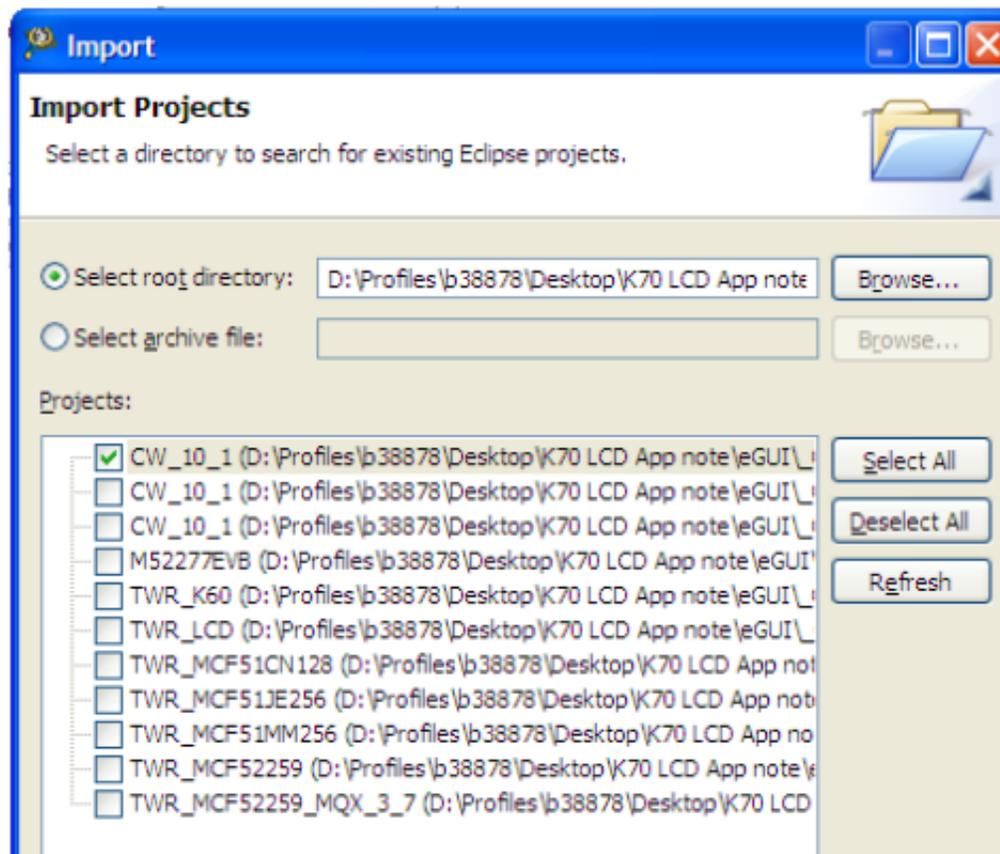

Figure 20. Opening eGUI project in Codewarrior 2
3. Click Next, select the 'Select root directory' option and browse to the location where the demo project is located inside the eGUI folder and click Finish. See Figure 20.